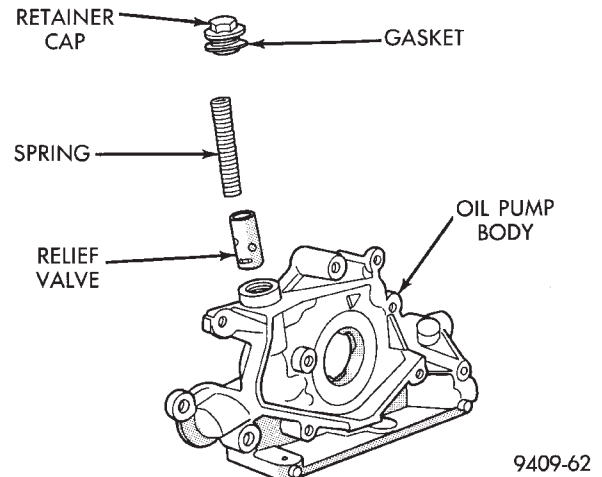

Fig. 94 Oil Pressure Relief Valve
(1) To remove the relief valve, proceed as follows:
(2) Remove the threaded plug and gasket from the oil pump (Fig. 94).
CAUTION: Oil pump pressure relief valve must be installed as shown in (Fig. 94) or serious damage may occur.
(3) Remove spring and relief valve (Fig. 94).
(4) Remove oil pump cover screws, and lift off cover.